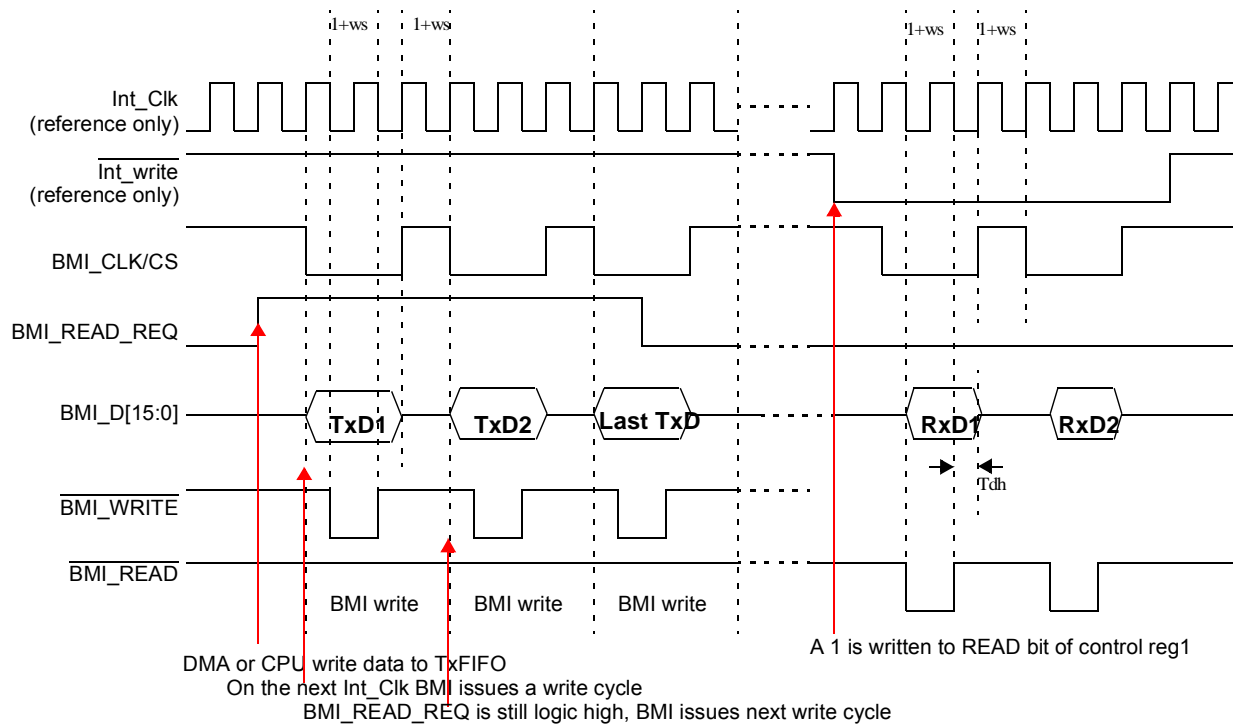

Figure 11. Memory Interface Master Mode, BMI Read/Write to External Slave Device Timing without Wait Signal (MMD_MODE_SEL=0, MASTER_MODE_SEL=1)
The $\overline{\text{WAIT}}$ control bit (BMICTLR1[29]) is used in this mode. When this bit is cleared (default), the $\overline{\text{BMI_WAIT}}$ signal is ignored and the CS cycle is terminated by Wait State (WS) control bits. Figure 11 shows the BMI timing when the $\overline{\text{WAIT}}$ bit is cleared.